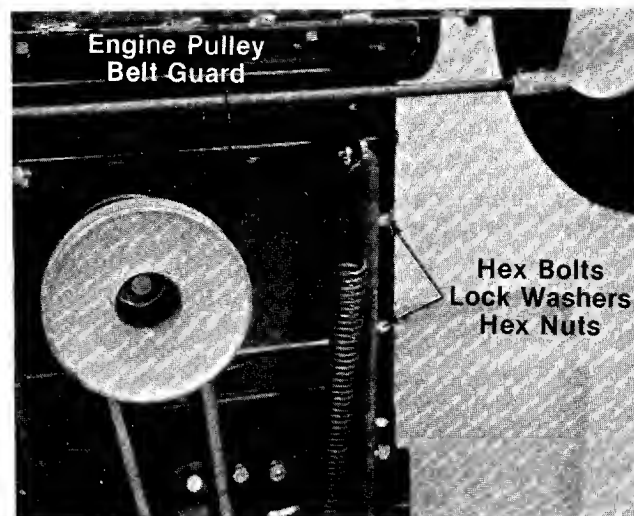

FIGURE 28.
2. Remove the two bolts, lock washers and nuts on each side of the frame which hold the engine pulley belt guard to the frame. See figure 28.